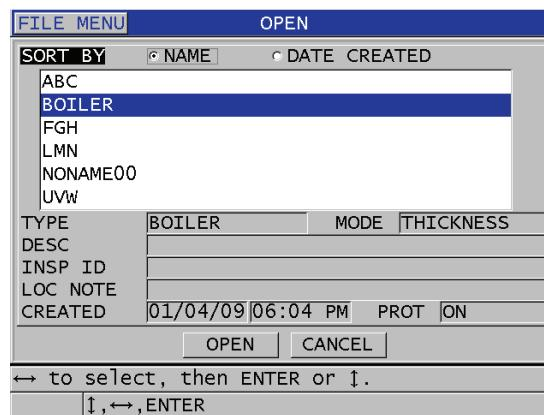

Figure 11-16 Opening a file
3. In the OPEN screen (see Figure 11-16 on page 176):